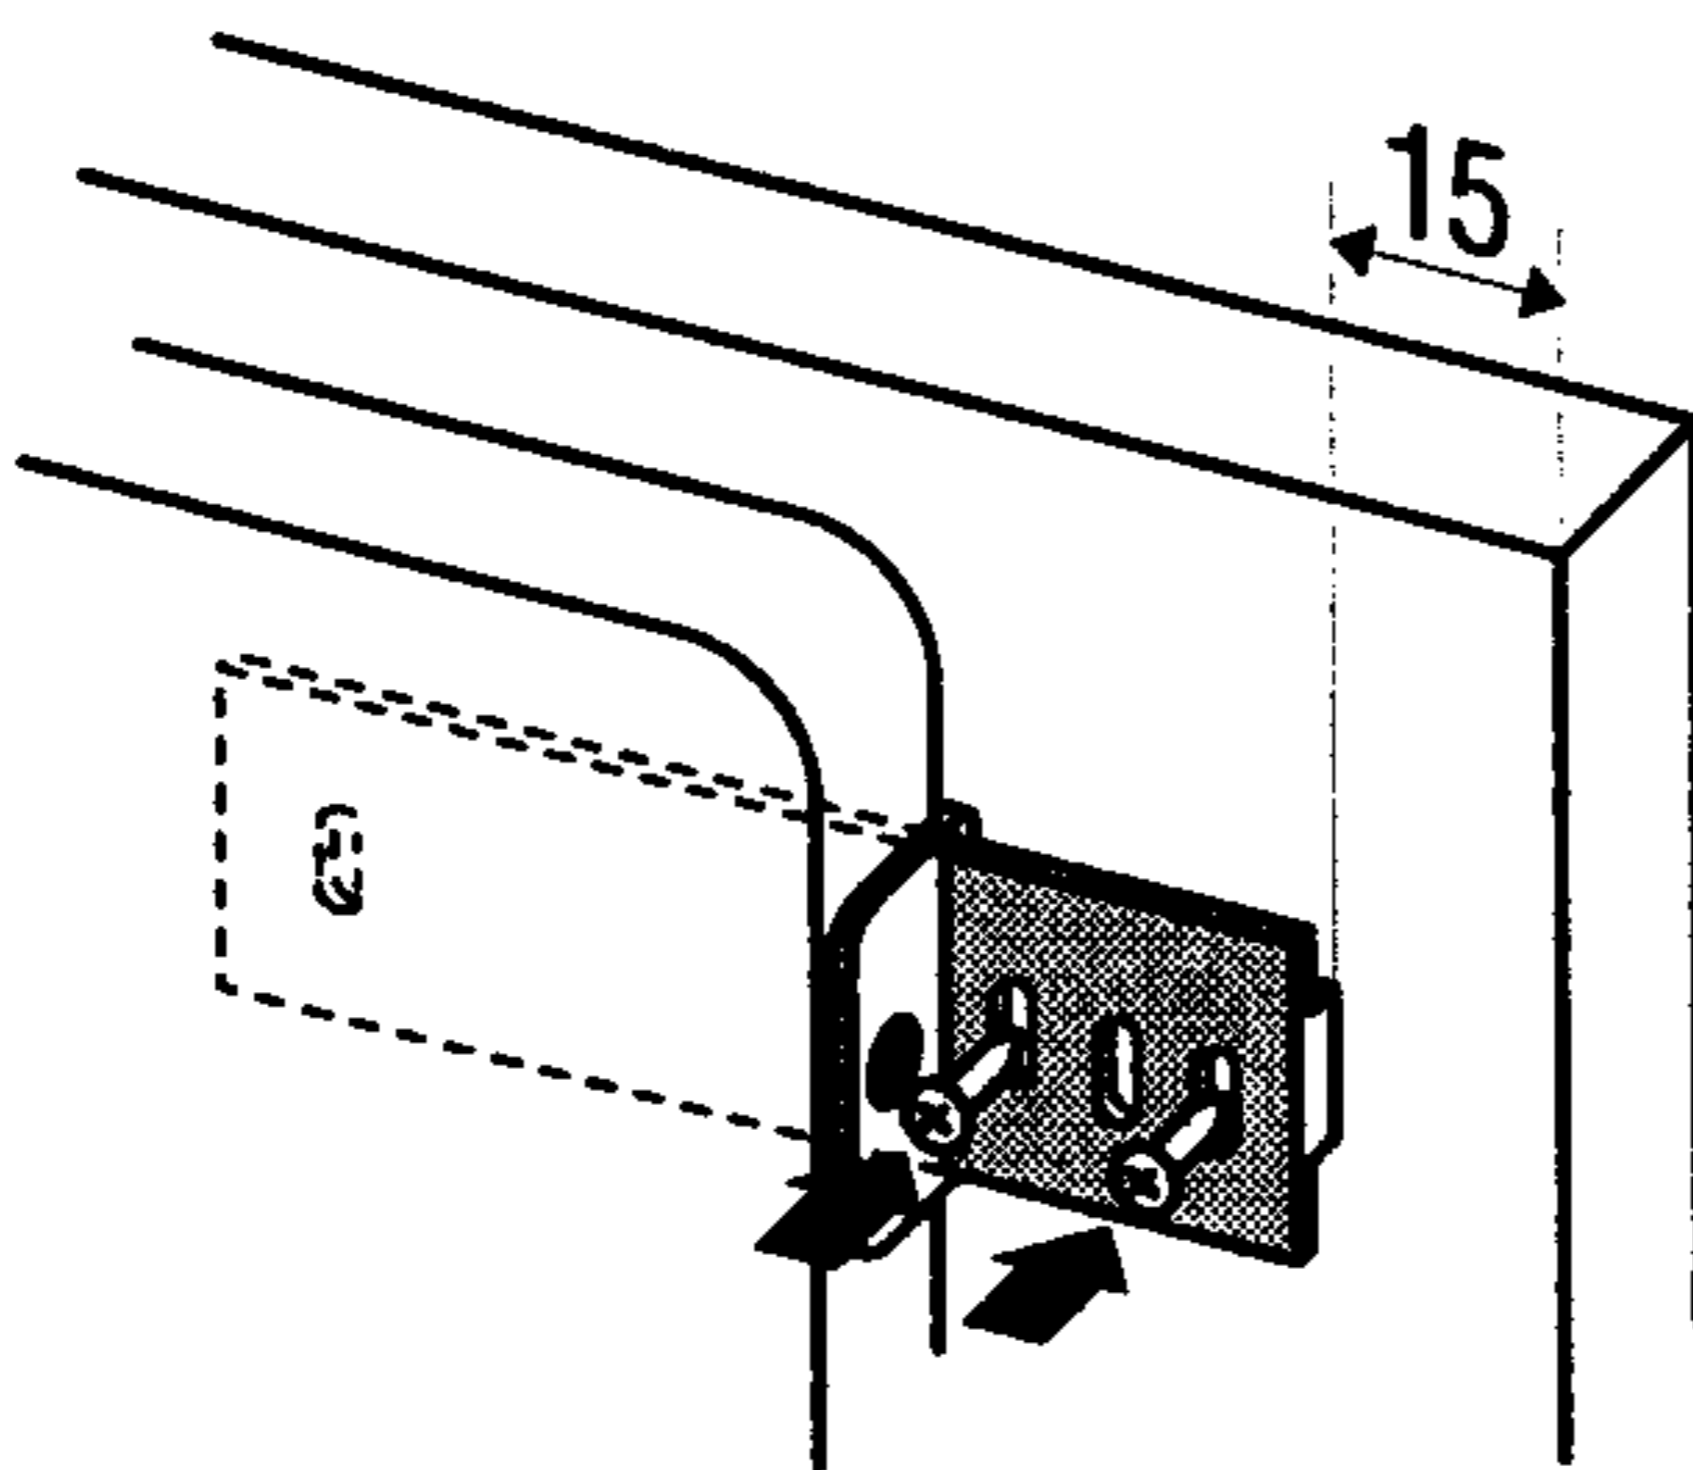

Fig. 3
- Insert the slides into the guides and fix them on the kitchen unit door 15 mm from the edge, using the A 4 x 12 screws (Fig. 3).